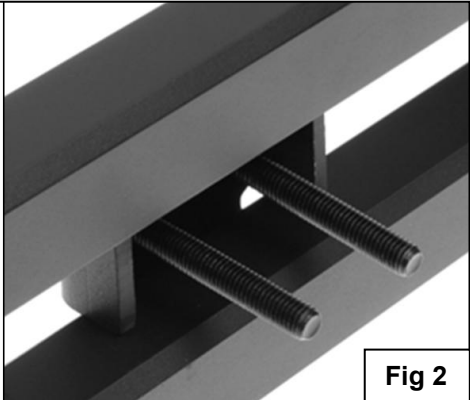
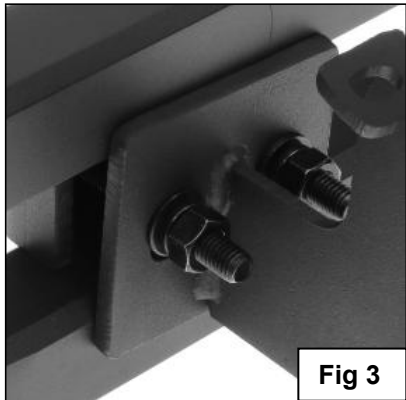

Fig 2
Fig 3
4. Select the Driver Side Bar. Slip (2) M10X1.5-75 Carriage Bolts into each 2-Hole Support Brackets, and insert the 2-Hole support bracket into the Driver Side Bar. **(Fig 2)**. Carefully position the Bar onto the (4) Mounting Brackets. **IMPORTANT:** Do not slide the Bar on the Brackets or damage to the finish may result. Attach the Driver Side Bar to the Mounting Brackets with (2) M10 Hex Nuts, (2) M10 lock washers and (2) M10 flat washers, **(Fig 3)**. Do not tighten hardware.